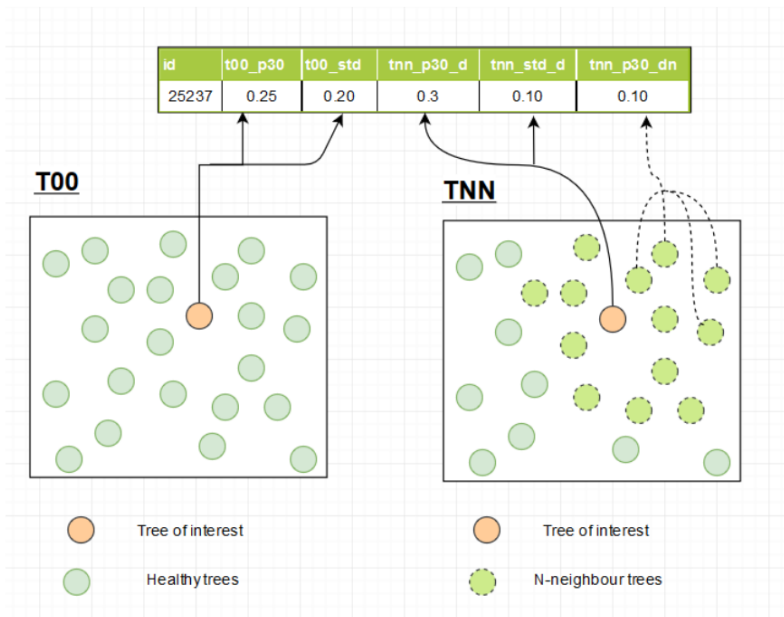

Figure 2: Tectimes neighborhood analysis
- **Data output II:** From the second flight over the same area and with the aid of the single tree detector, a change detection (comparison of the individual tree over the two flights with itself) and a neighborhood analysis (comparison of the individual tree with its 20 neighboring trees, see Figure 2) are applied and only clearly changed trees are shown - this puts the focus on more relevant points. Depending on the size of the project, the data output is within one working week of the flight (data delivery can also be supplied in batches).